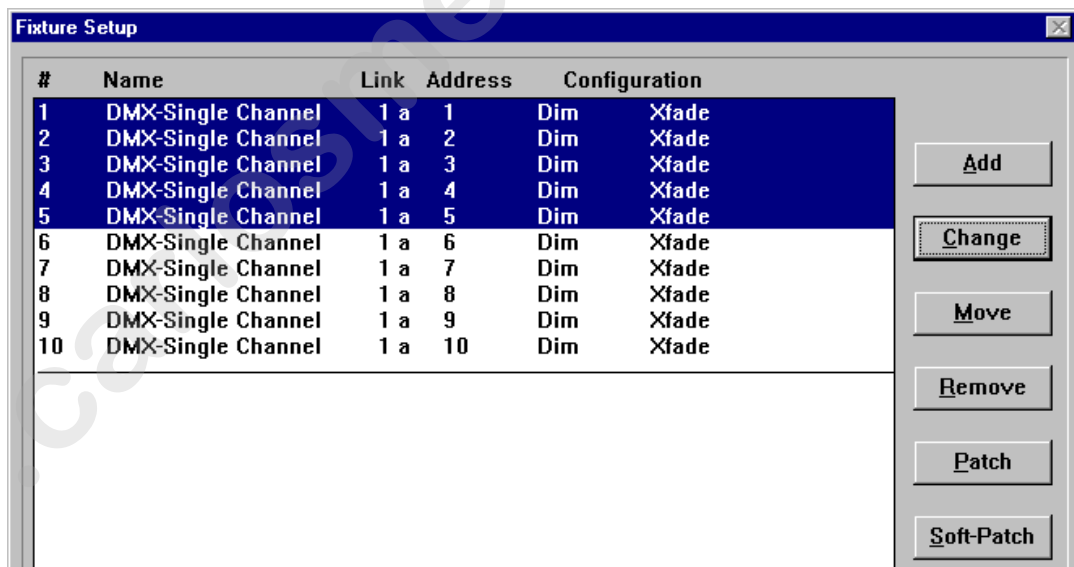

Figure 4.22. Changed Soft-Patched Fixtures Example
3. Select **DMX-Single Channel** and click the **OK** button. The soft-patched fixture(s) will become single DMX channel(s) again. Refer to Figure 4.22.